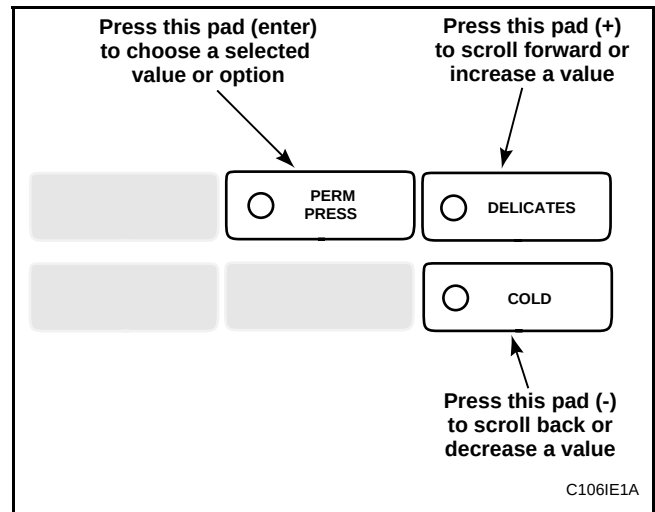

Figure 45
5. Press the DELICATES (+) or the COLD (-) keypad to increase or decrease the current number of minutes displayed in the VFD to the desired number of minutes. See **Figure 45**.